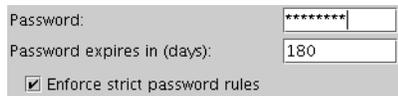
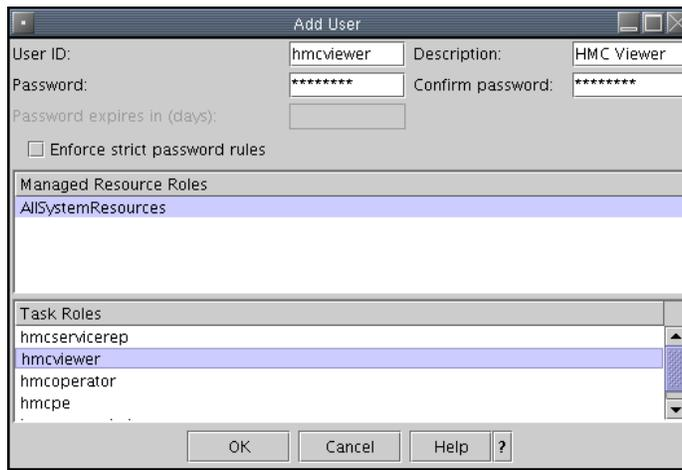

Figure 7-5 Enforce strict password rules
Figure 7-7 Add a new user with Viewer role
3. Select **hmcsuperadmin** from Task Roles in order to create a new user with the System Administrator role. You may select **Enforce strict password rules** to give the password expiration and type the number of the expiration day as shown in Figure 7-5. **Enforce strict password rules** will set the password to expire after the number of the day specified.
3. Select **hmcviewer** from Task Roles in order to create a new user with the Viewer role as shown in Figure 7-7. You may select **Enforce strict password rules** to give the password expiration and type the number of the expiration day as shown in Figure 7-5 on page 240. **Enforce strict password rules** will set the password to expire after the number of the day specified.